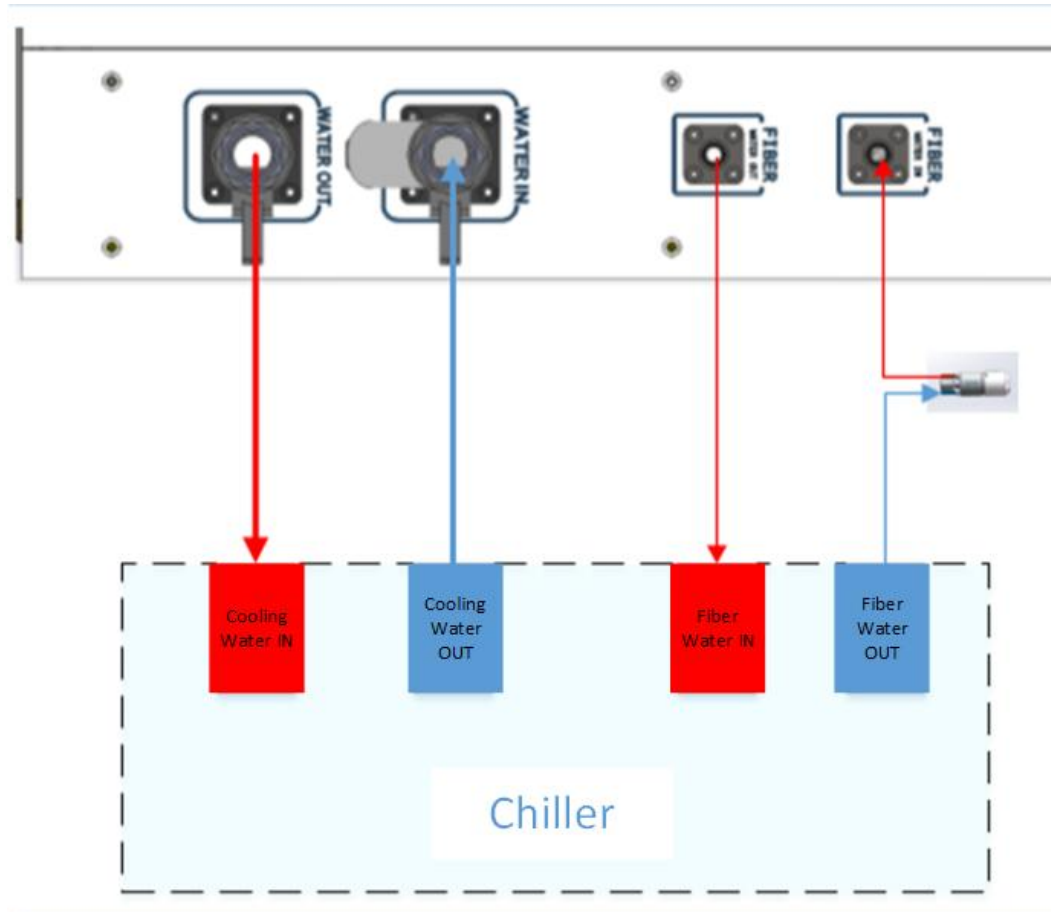

Figure 7 Schematic diagram of laser cooling system connection
- a) The cooling water connection of the laser is shown in Figure 7, and the arrow direction represents the flow direction